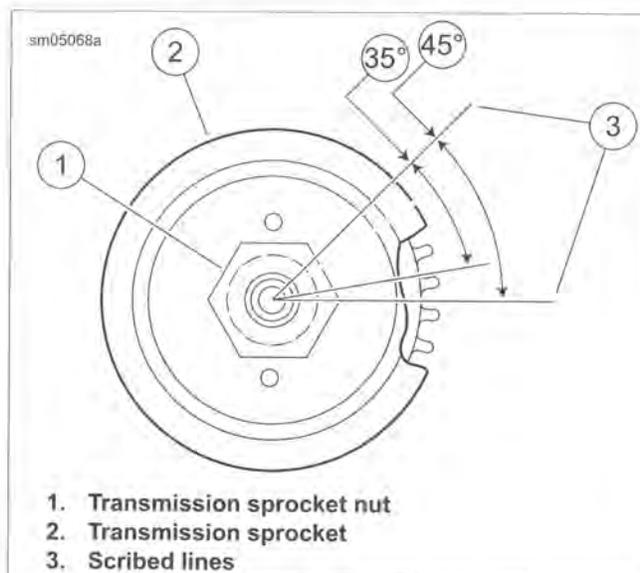

Figure 5-43. Transmission Sprocket Nut Final Tightening
See Figure 5-43. To determine proper angles during final tightening, scribe lines (3) or use TORQUE ANGLE GAUGE (Part No. SNAP-ON TA360) after the 35 ft-lbs (47.5 Nm) torque is applied.